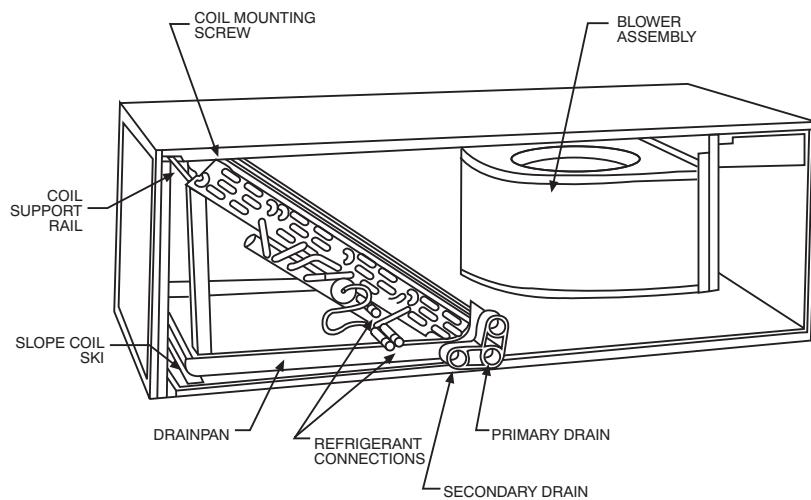

Fig. 4 – Conversion for Horizontal Right Applications - Slope Coil
4. Lay fan coil on its right side and reinstall coil assembly with condensate pan down (Fig. 4).